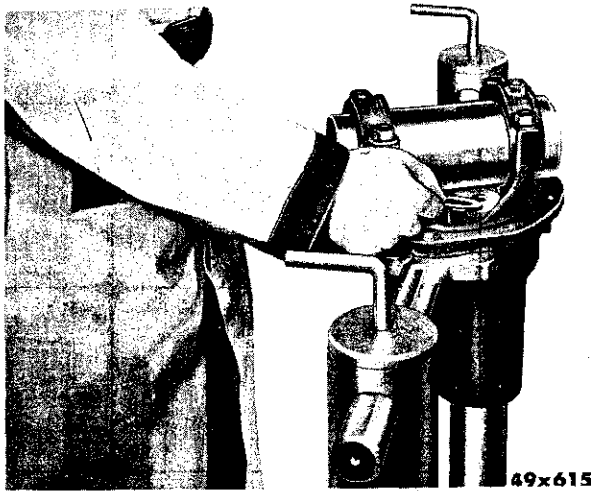

Fig. 22—Determining Spacer Washer Thickness
(3) Select the “gauge washer” that will fit between the tool gauge block and arbor (Fig. 22). The fit must be snug but not too tight (similar to the pull of a feeler gauge). This washer is used only for determining the correct thickness washer to be used for installation.
(4) To select the proper washer for installation, read the marking on the end of the pinion (—0, —1, —2, +1, +2, etc.) When the marking is —(minus), add that amount to the thickness of the “gauge washer” selected in step 3. When the Marking is + (plus), subtract that amount. Example: With a “gauge washer” .086 inch thick and a pinion marked —2, install spacer washer .088 inch thick (.086 + .002 = .088). Example: With a “gauge washer” .086 inch thick and a pinion marked +2, install a spacer washer .084 inch thick, (.086 — .002 = .084) or when a “gauge washer” .086 inch thick is too loose and the .088 inch is too tight, use a .086 inch spacer washer.
(5) Remove the tool arbor from the carrier.
(6) Remove the tool and bearings out of the carrier.
(7) Remove the shims, spacer, tool sleeve, and rear bearing cone from the tool main screw.